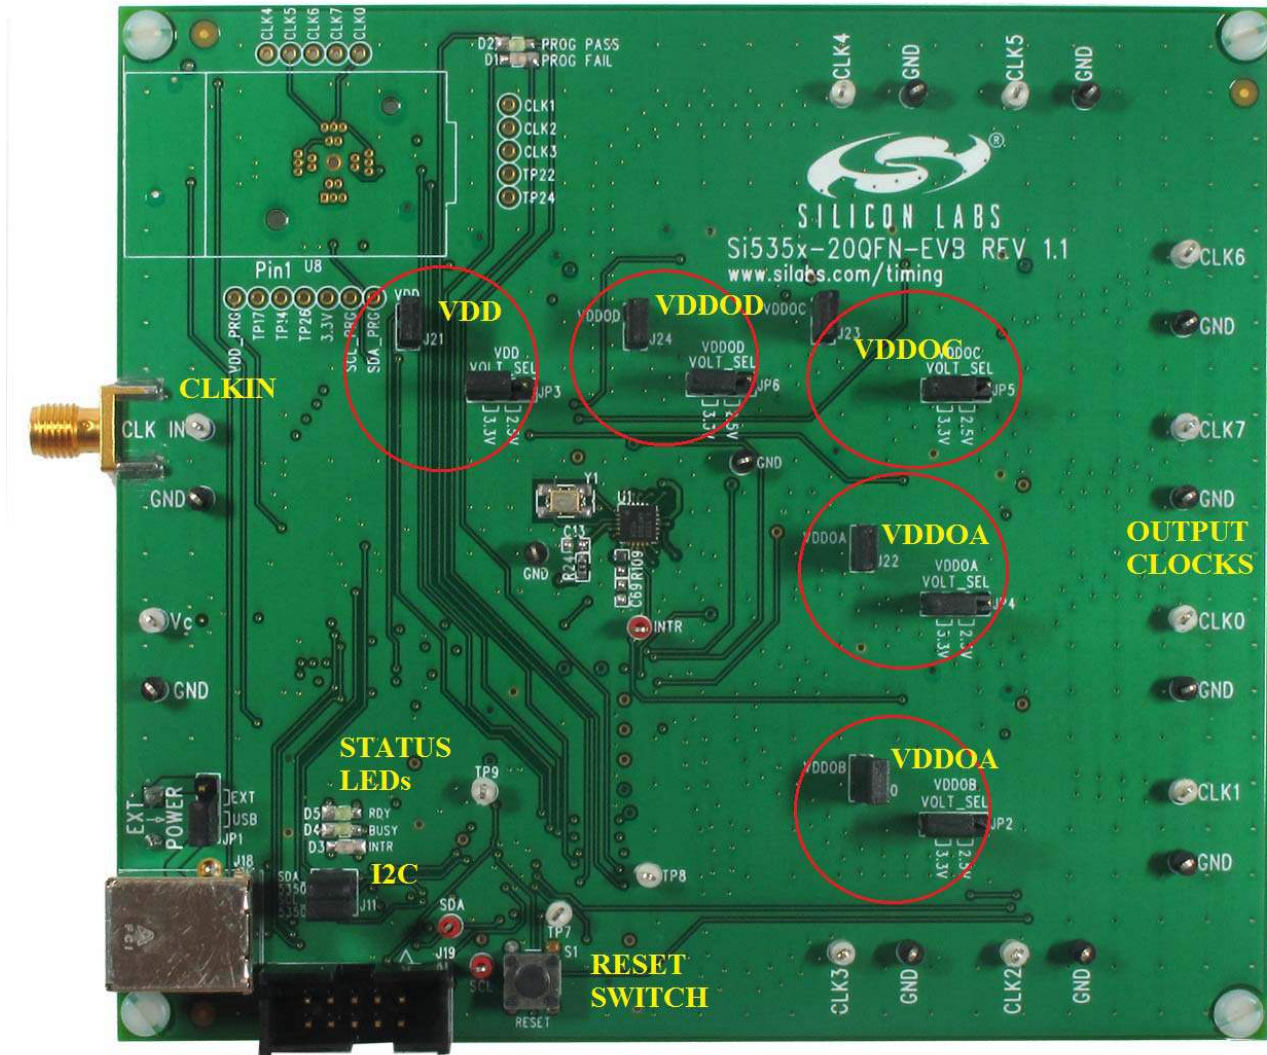

Figure 1. EVB Features
Figure 1 highlights the main features of the EVB. The onboard MCU is responsible for programming the Si535x timing IC, measuring the device's current consumption reported in the ClockBuilder™ Desktop, managing power, and controlling status LEDs. VDD and VDDO jumpers allow the option of choosing between 2.5 V and 3.3 V or powering the device with external supplies (see “2. Jumpers” for details). I2C jumpers allow the Si535x to be disconnected from the I2C bus, allowing external control from another I2C master.
- **EXP POWER**—Allows user to select between 5 V USB supply and 5 V external supply on J17. See Figure 1 for jumper locations.